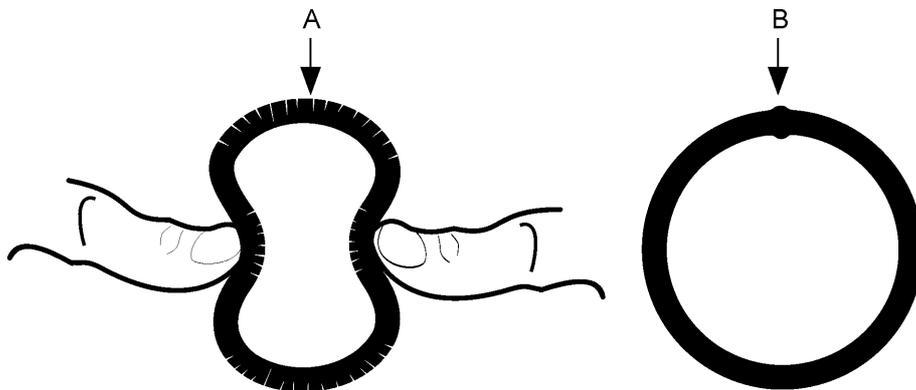

Fig. 7-6
- ♦ Free from any damage, such as cuts or swellings. See Fig. 7-6, 169.